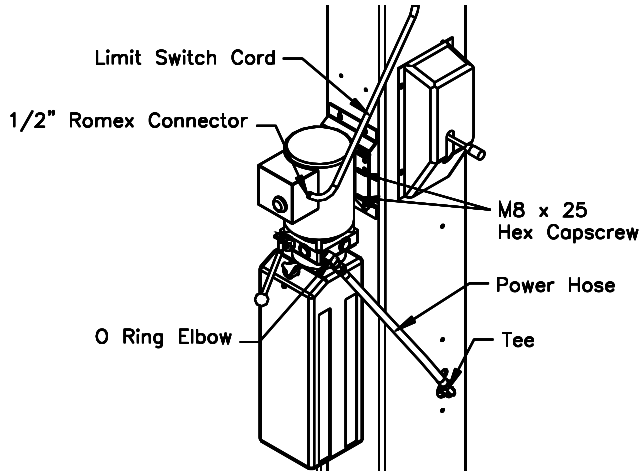

Fig 14 – Power Unit Mounting
- 29) Mount Power Unit to power column as shown in **Fig 14**. Using the (4) M8 x 25 Hex Head Capscrews provided.